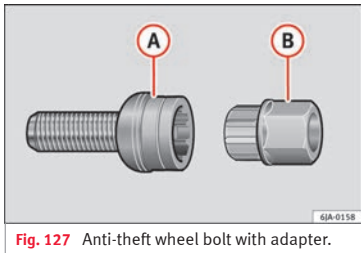

Fig. 127 Anti-theft wheel bolt with adapter.
- Insert the adapter (B) » Fig. 127 with its toothed side as far as it will go on the interior tothing of the anti-theft wheel bolt (A) so that only the outer hexagonal is protruding.
- Fit the box spanner as far as it will go over adapter (B).